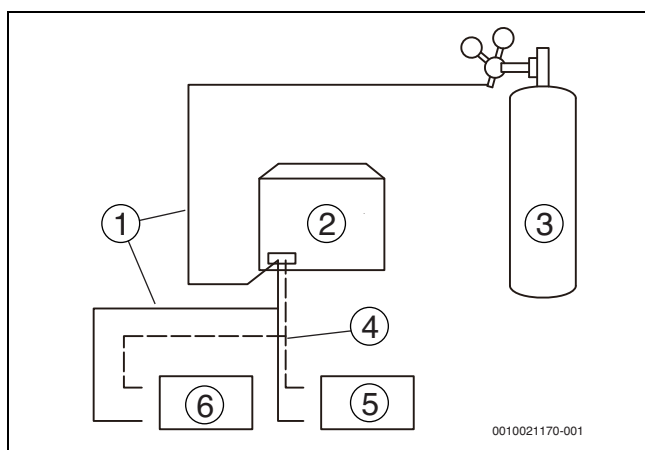

Fig. 58
4. Use blind plugs to block all liquid (gas) side openings, except for the opening at the indoor unit which is furthest from the outdoor units ("Indoor unit A" in Figure 58).